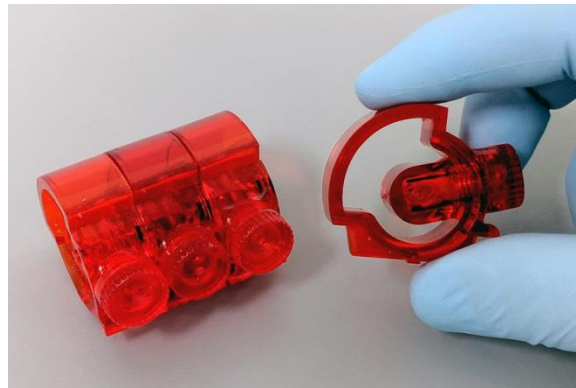

Figure 1-26 Dummy Electrode
- The “X” indicates that a Dummy electrode should be installed in place of a measurement electrode. See Figure 1-26.